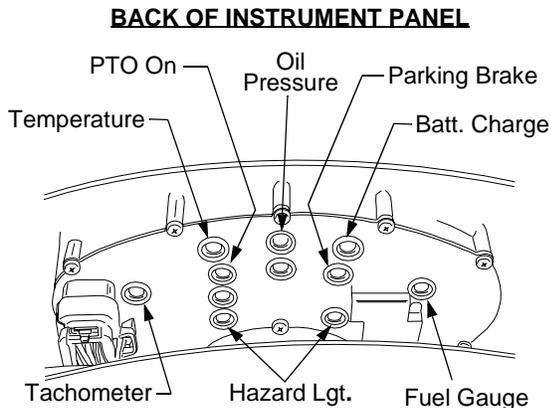

Figure 39
- Determine the position of the burned out bulb and pull the seal plug from the back of the instrument panel. See Figure 39.